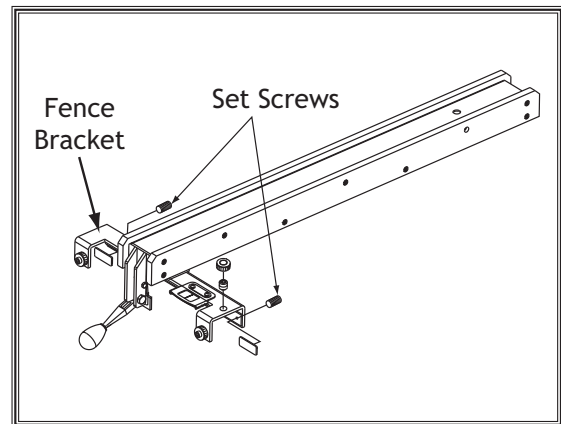

Figure 105. Location of set screws used to adjust fence parallelism and clamping pressure.
3. Equally adjust the set screws shown in **Figure 105** on the rear side of the front bracket as necessary until the clamping pressure is strong enough that the fence will not move as pressure is applied against it.